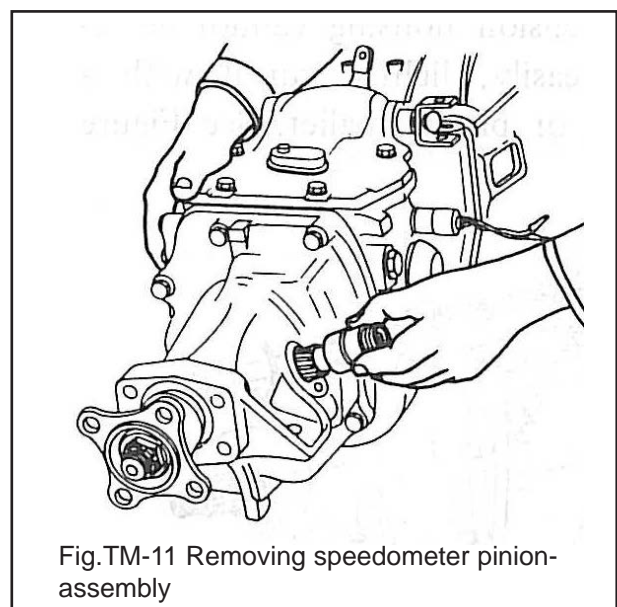

Fig.TM-11 Removing speedometer pinion-assembly
3. Remove speedometer pinion assembly lock plate securing bolt and detach speedometer pinion assembly from rear extension housing. See Figure TM-11.